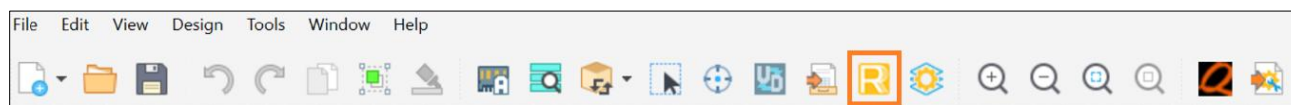

Figure 5.16. Lattice Radiant Icon in Lattice Propel Builder
8. To synthesize the RTL files and generate the bitstream, click the Lattice Radiant icon in Lattice Propel Builder, as shown in Figure 5.16.